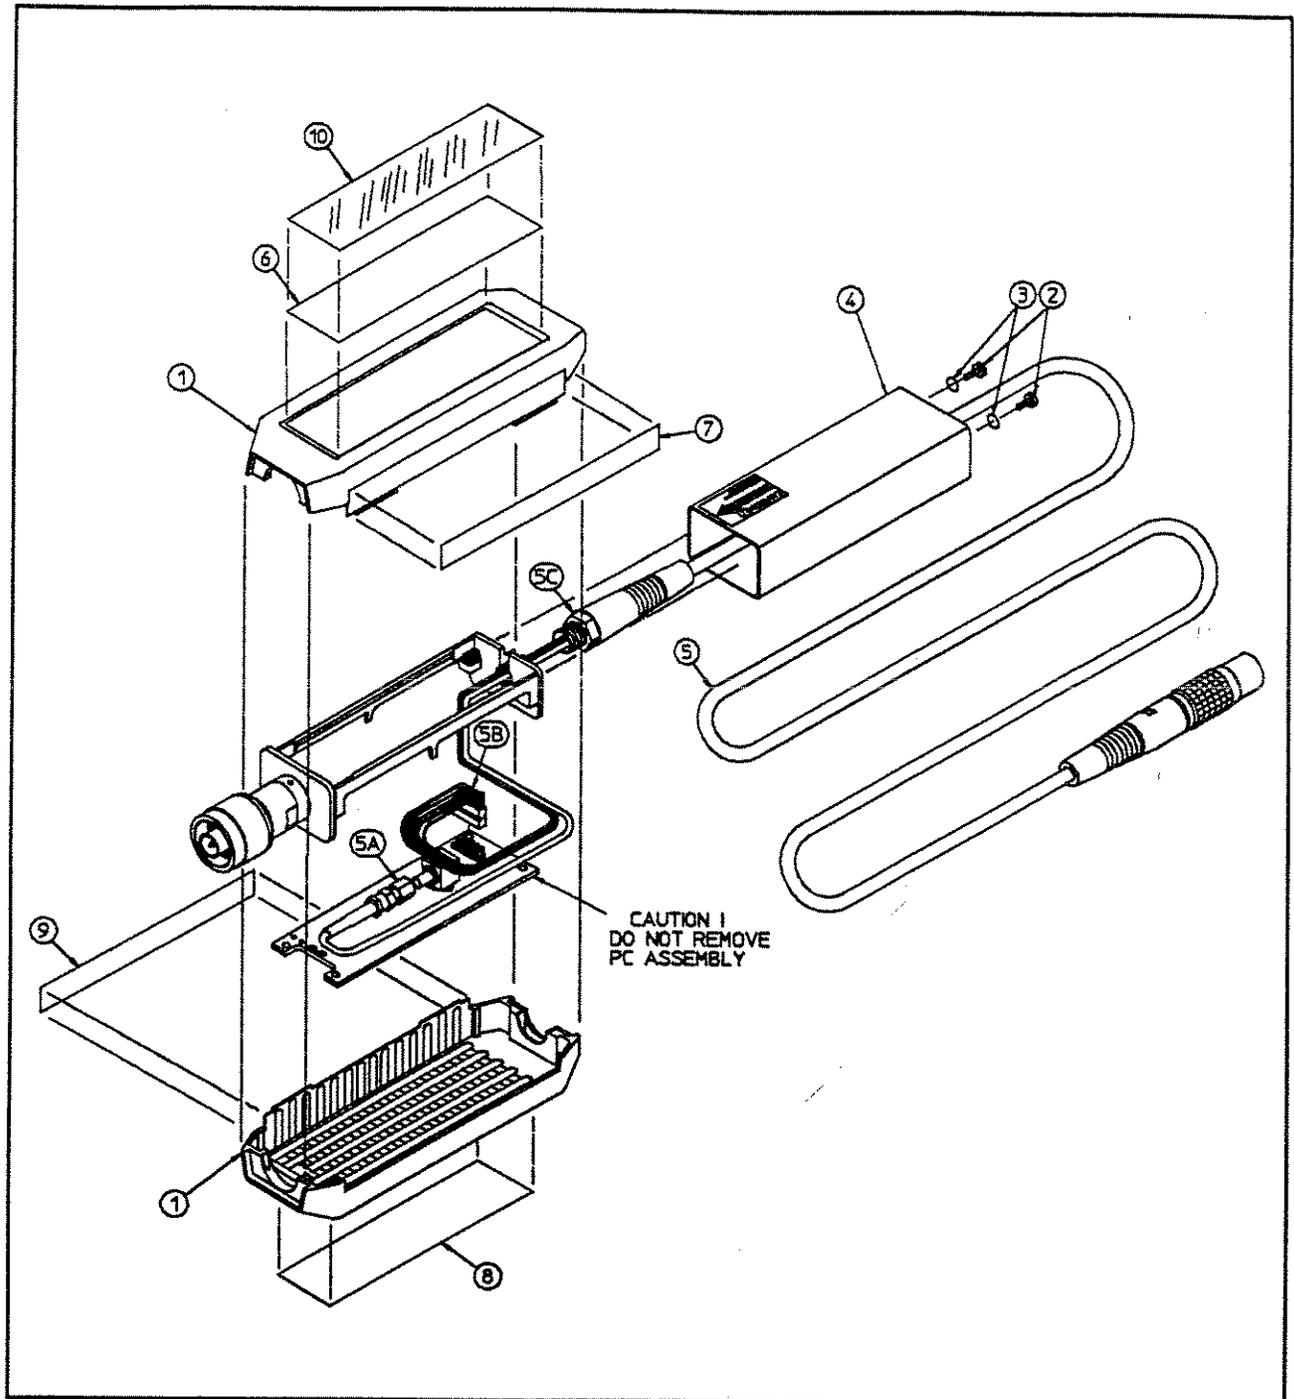

Figure 5-3. Cable Replacement
4. Refer to Figure 5-3. Remove two screws **2** from the sensor shield **4**.